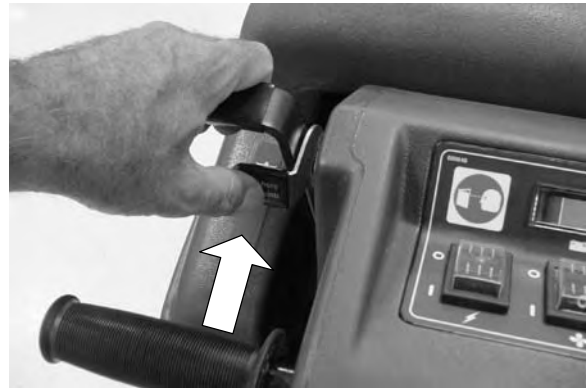

FIG. 17
2. Lower squeegee. Depress thumb lever on squeegee lift lever to lower (Figure 17).